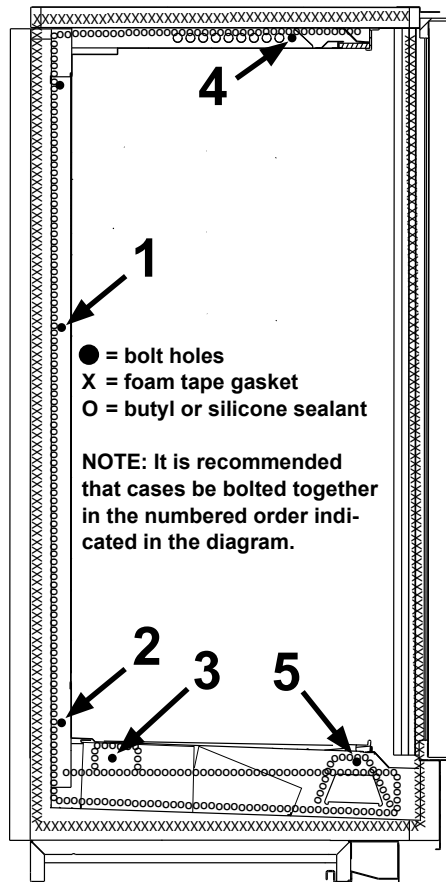

Fig. 3 Bolt holes, foam tape gasket and sealant
4. Apply the foam tape gasket (supplied) and butyl or silicone sealant to the end of the first case (Fig. 3).